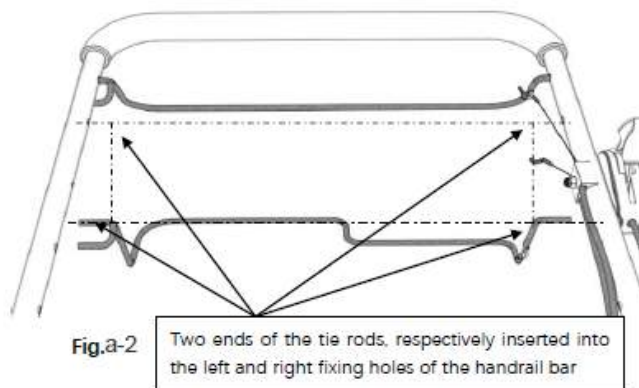

Fig.a-2
2. Insert the roller drive lever into the left and right fixing holes of the upper handle (fig. a-2)